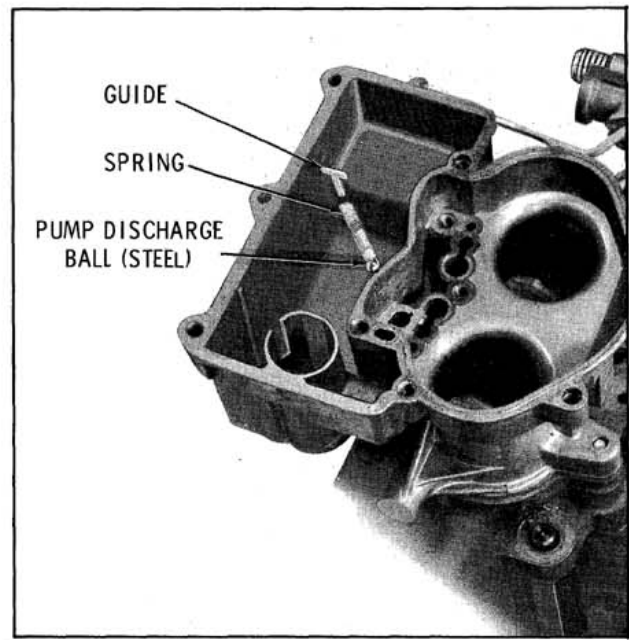

Fig. 4-30 Pump Discharge Guide
5. Using a pair of needle-nosed pliers, remove the pump discharge spring guide, then remove the spring and steel ball. (Fig. 4-30)
1. Install the pump discharge (steel) ball, spring and guide in the passage in the venturi cluster mounting surface. (Fig. 4-30)